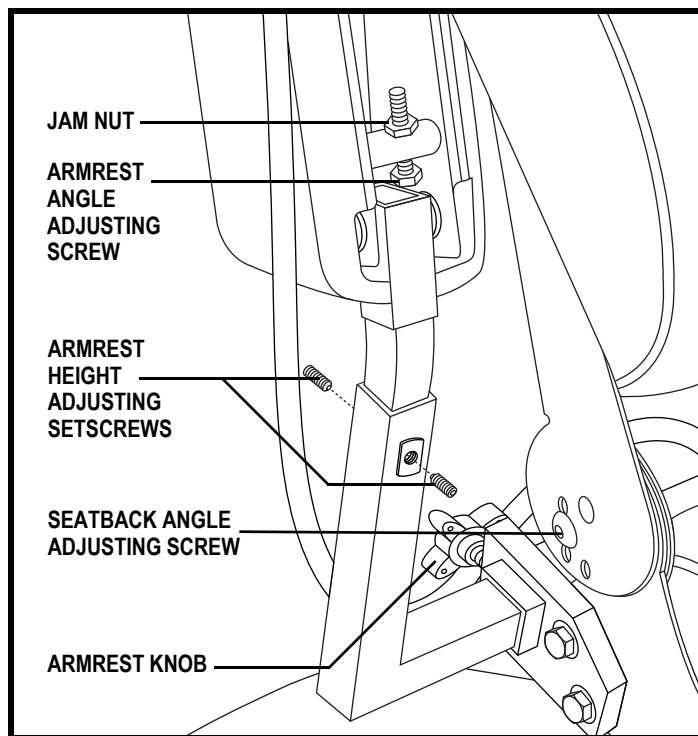

Figure 18. Seatback and Armrest Adjustment
1. Remove the seatback angle adjusting screws from each seat hinge. **See figure 18.**
1. Locate the two armrest knobs on each side of the armrest receiver bracket. **See figure 18.**
1. Lift the armrest straight up so that it is perpendicular to the floor. **See figure 18.**
1. Loosen the two setscrews located on the armrest receiver. **See figure 18.**